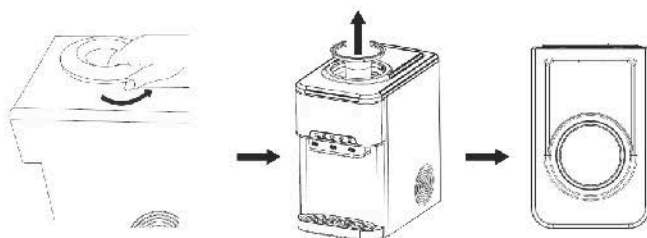

Fig. 6
1. Twist or lift off the bottle support collar. (see **Fig. 6**)